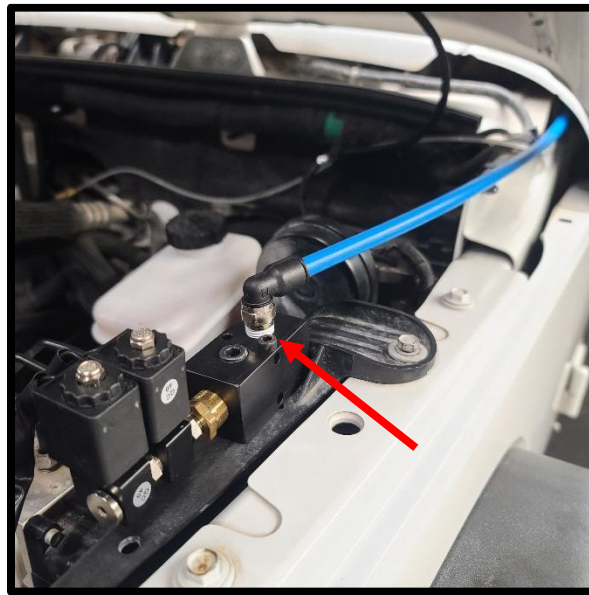

Figure 29
- 5-B) Install the air locker manifold assembly (from **Step 1-C**) as shown in **Figure 29**. Install in the factory hole using the provided M5x40mm socket head bolt / nut and tighten in place. Reinstall all three (3) bolts / nut removed in **Step 5-A** and tighten.